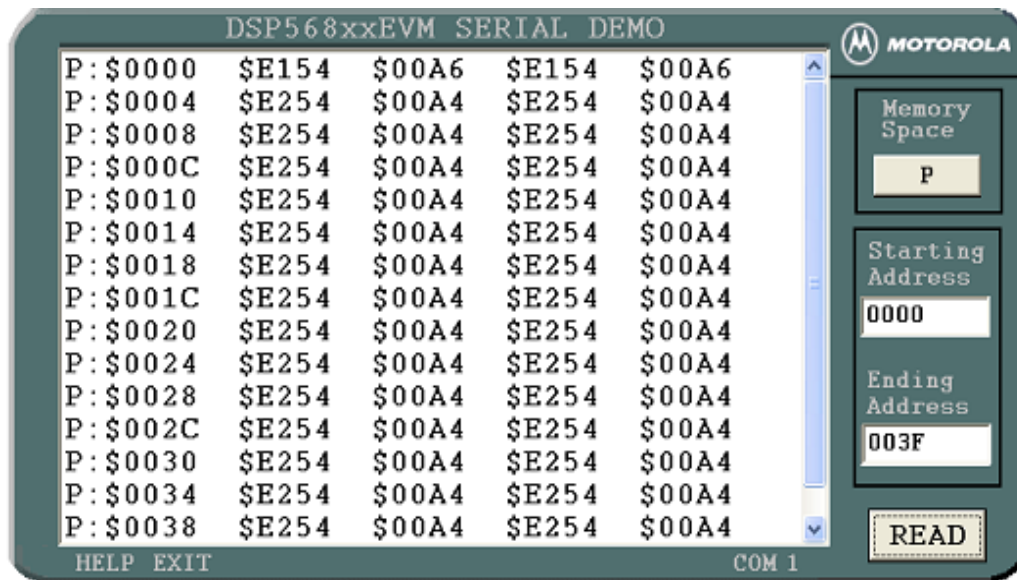

Figure 4-7. PC Serial Application
6. At this point, the migration process is complete and the application may be functionally tested. The 56F8323EVM serial port may be connected to a PC running the serial application mentioned at the beginning of this section. The PE project may be built, downloaded to the EVM and run. At this point, you can specify on the PC Application, the address and memory space from which to read data from the 56F8323 and it will display information as shown in Figure 4-7.